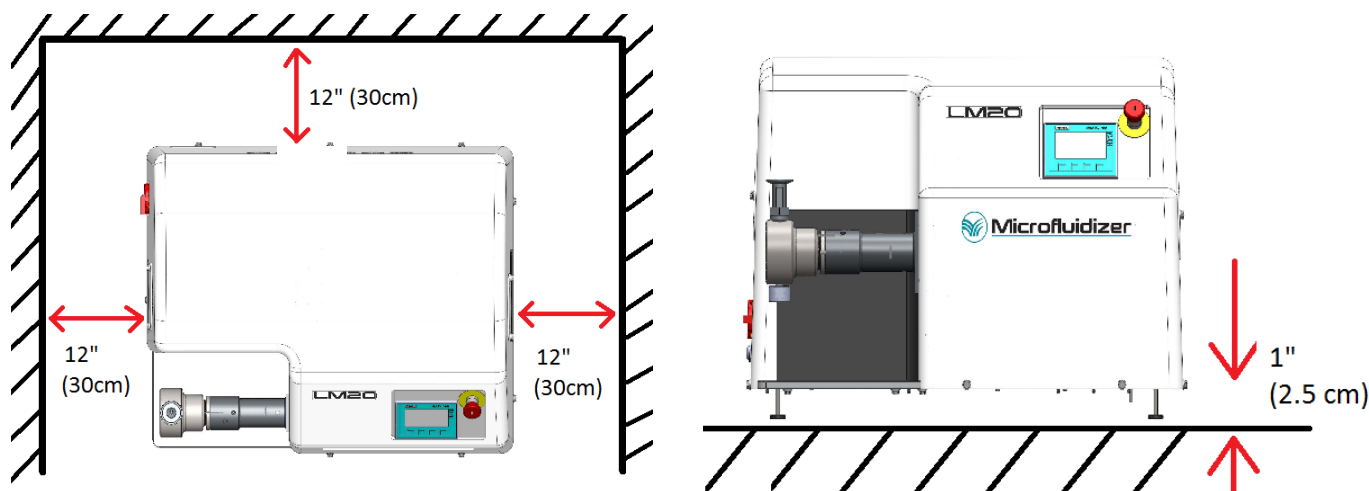

Figure 2 - Site Preparation
- Locate the desired operating site and prepare sufficient space for the equipment (refer to Figure 2).
A minimum clearance of 12 inches (30 cm) around all sides of the Microfluidizer™ equipment is required. Do not obstruct the air vents; always operate with the leveling machinery feet installed. See Figure 2.